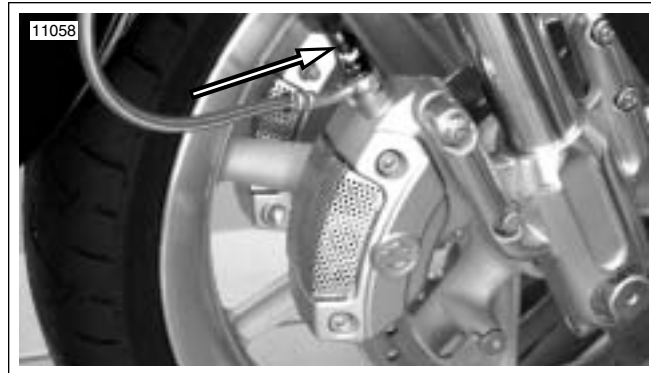

Figure 1-33. Front Brake Bleeder Valve
- a. Front brake bleeder valve-see Figure 1-33.